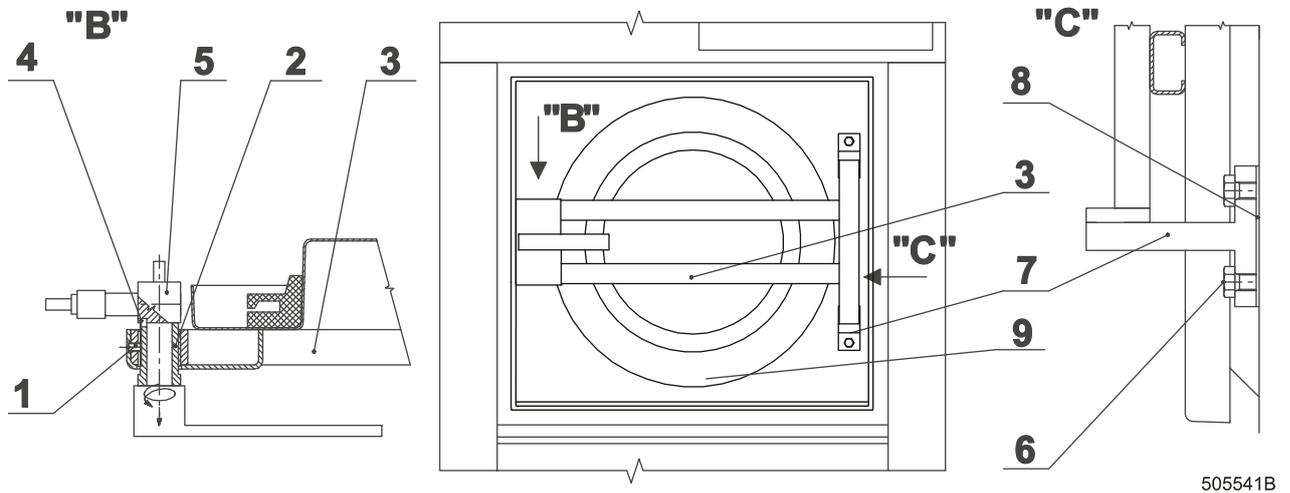

Fig.5.11.B Washers 33-40-55 kg / 80-100-125 lb
Once in 6 months or when needed, grease spring suspension eyes (fig.5.12.A., fig.5.12.B., pos. 6), guiding rods (fig.5.12.A., fig.5.12.B., pos. 3), the door handle casing (fig.5.11.B, pos.2) and the casings in the door hinge (fig.5.11.B., pos. 7). The motor bearings are maintenance-free (do not lubricate). The hub and pulley seating of machines of 22 kg / 50 lbs are maintenance-free.
ADJUSTMENT OF PRESSURE ON THE HINGE SIDE, WASHERS 22 kg / 50 lb, fig.5.11.A
ADJUSTING ON THE SIDE OF THE DOOR HANDLE, WASHERS 33-40-55-80-100-120 kg / 80-100-125-180-220-265 lb (fig.5.11.B)
1. Unscrew the bolt (fig. 5.11.B, detail „B“, pos. 1) securing the casing of the door handle (2).
2. Unscrew the casing (2) from the door bearer (3) always by a whole turn that the groove in the casing thread (2) appears below the securing bolt (1).
3. To make the casing turning (2) easier, use the semicircle notches (4) between the casing (2) and the handle pin (5), in which you insert cylindrical object (a bolt etc.). By turning the handle, the casing (2) will also move.
4. After the door thrust has been adjusted, tighten up the securing bolt (1) to the groove in the casing (2) thread.
ADJUSTING ON THE SIDE OF THE DOOR HINGE, WASHERS 33-40-55 kg / 80-100-125 lb, fig.5.11.B